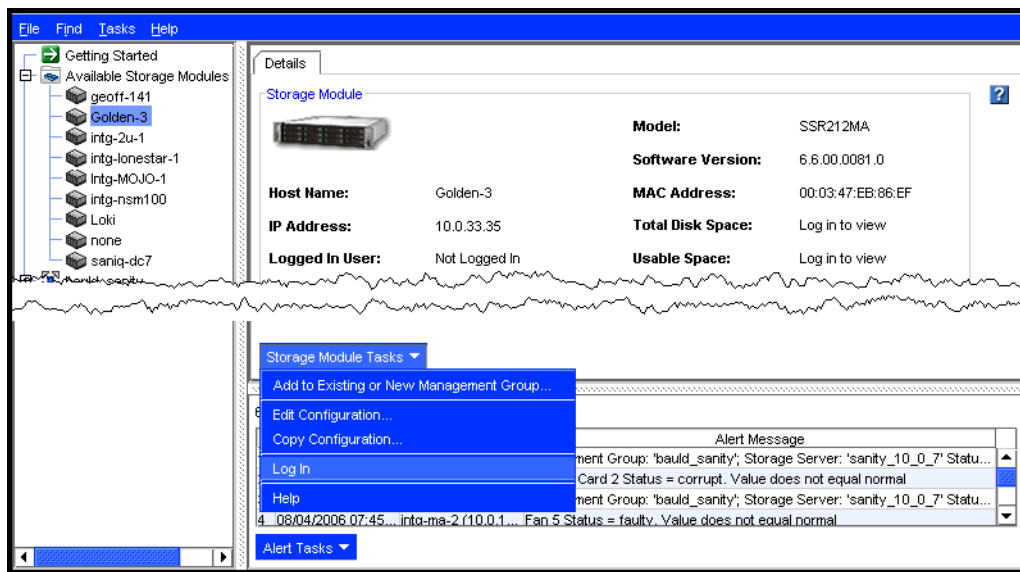

Figure 16. Logging in from Storage Module Tasks
3. Select Log in, shown in Figure 16.